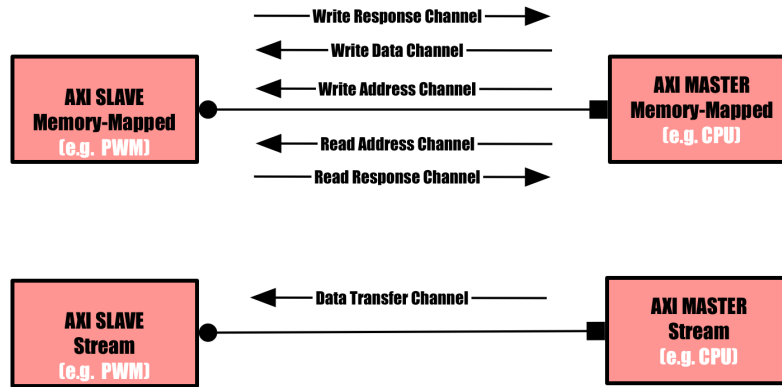
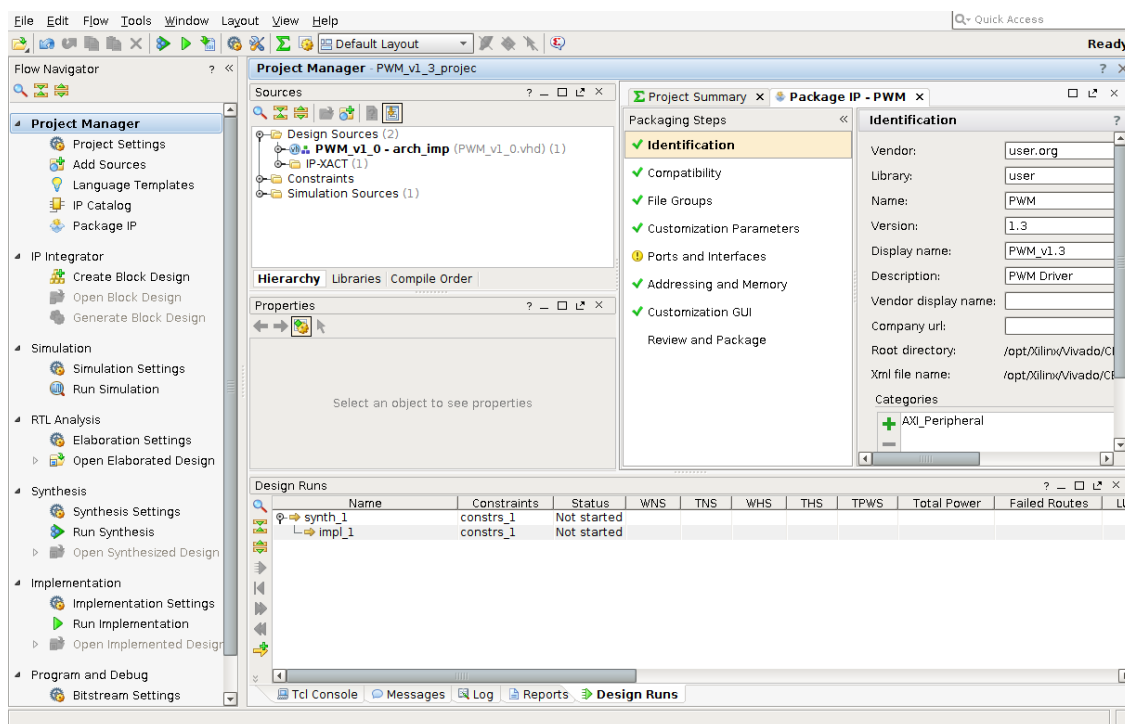

Figure 2: AXI Memory Mapped and AXI Stream architecture
Figure 10: IP Project Structure
As we have talked about customization per application, you can use two types of advanced eXtensible interfaces (AXIs): AXI Stream and AXI Memory Mapped (MM). Basically, a simple application such as computation of some stream of data can make use of AXI Stream, while a more complex one (e.g. writing on a memory) might need access to addresses (so AXI MM comes in place). Their diagrams can be seen in Figure 2. In our case, we will use an AXI Memory Mapped architecture, and PWM (Pulse Width Modulation) slave module to control LEDs and a buzzer.
Right click on the PWM_0 IP and select *Edit in IP Packager*. Another project (Figure 10) will open that contains the files generated for this IP. Vivado Design Suite provides you with *Packaging Steps* to configure the current IP. In the Source part, you will see an hierarchical design in VHDL. The top level is called *PWM_v1_0.vhd* and contains an instantiation of the *PWM_v1_0_S00_AXI.vhd* where the logic is implemented. If you open *PWM_v1_0_S00_AXI.vhd*, you will see the registers specific to the AXI-Memory Map architecture (Figure 2). In addition, the user can add its own logic and signals. Thus, you can see the implementation of PWM outlined by the following comments: